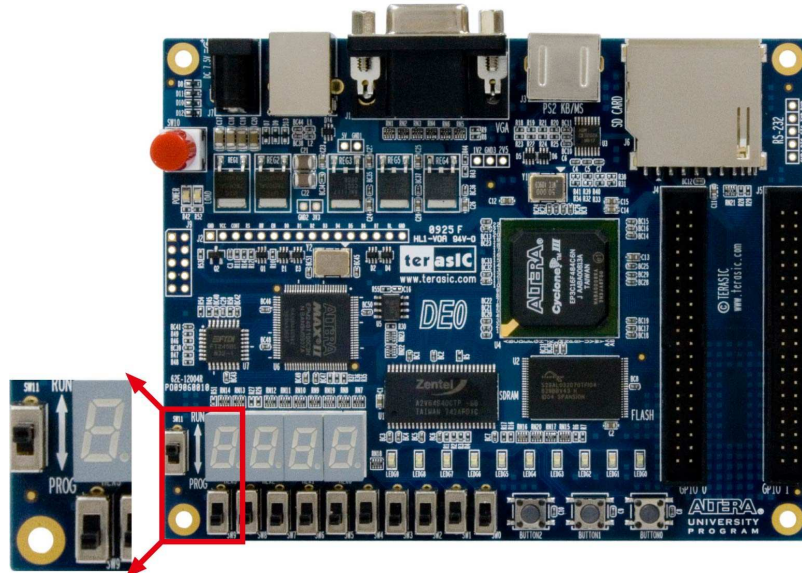

Figure 4.2. The RUN/PROG switch (SW2) is set in JTAG mode
- Configure the JTAG programming circuit by setting the RUN/PROG switch (see Figure 4.2) to the RUN position.